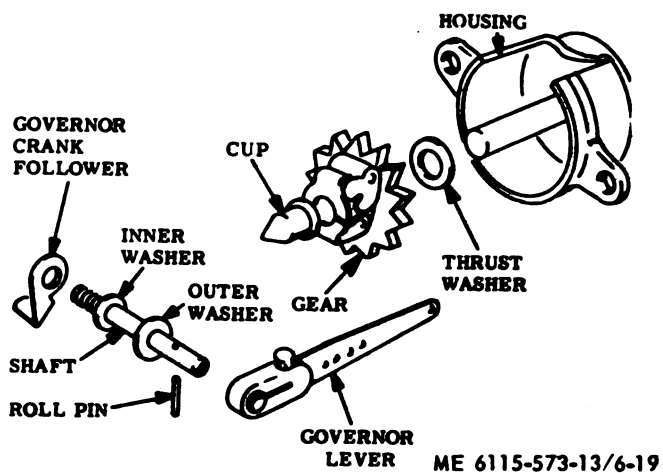

Figure 6-19. Mechanical governor parts.
(2) Loosen the screw on the governor level and pull lever from governor shaft (fig. 6-19).
(3) Loosen the two governor housing mounting screws to remove governor housing. As the housing is lifted, the governor gear will slip off the shaft. Do not allow gear to drop and be damaged. During disassembly, inspect and repair governor assembly as necessary to insure that governor weights are securely fastened.
(4) Retain the steel thrust washer (fig. 6-19) on the shaft between the gear and the gear housing; this washer will be used when assembling the governor.
(5) To remove the governor lever shaft, pull out with a pair of pliers or drive out with a thin punch the roll pin in the outside end of the governor lever shaft. Remove the washer (fig. 6-19).
(6) With a screwdriver, turn the governor lever shaft clockwise, from the outside end, to unscrew the governor crank follower from the shaft. This is a left-hand thread. Hold governor crank follower and pull out the shaft.
(7) Replace unserviceable parts with serviceable like items.